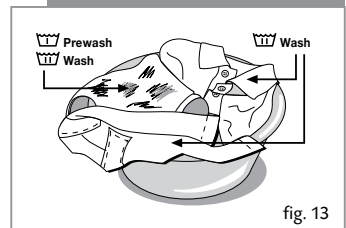

fig. 13
- Sort clothes according to how soiled they are (Figure 13).